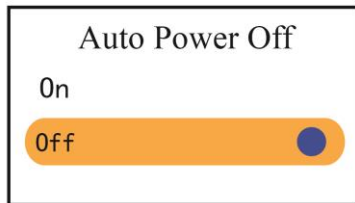

Figure 4.10D Auto Power OFF setup
- **Auto power off:** To turn on/off the Auto Power Off mode, the factory default is "On", as shown in figure 4.10D.